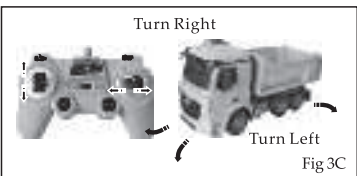

Fig 3C
- To push the Left Handle forward/backward, Right Handle turns left/right, the car would turn left/right. (Fig 3C).